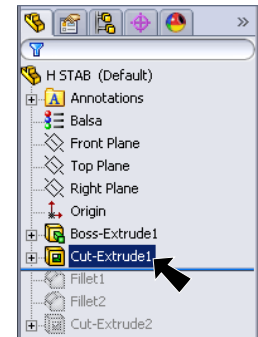

Fig. 43
Step 3. Click **Cut-Extrude1** in the Feature Manager and press **Delete** key on the keyboard, **Fig. 43**. Deleting the feature will prevent duplicate lines.